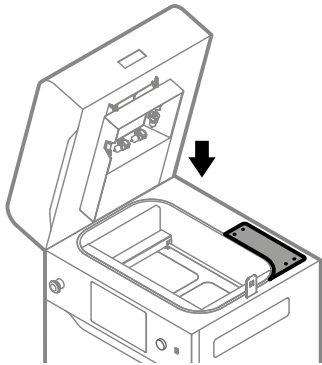

Fig. 13.61 Mount back the access panel.
12. Mount back the access panel on the top side of the printer (fig. 13.61).